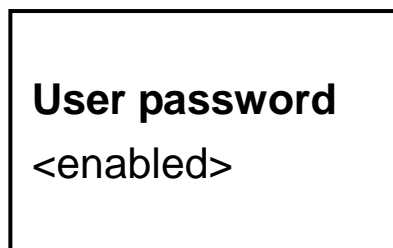

Fig. 4-10
- 4). After entering the password, press  button. LCD will display the submenu of “Settings” (Fig. 4-10).
After you access the “Settings” submenu, LCD displays as Fig. 4-10. The value of “User password” will be “<enabled>” or “<disabled>”. And “<enabled>” means you can change the values of “Settings” submenu items. “<disabled>” means you can’t. It depends on whether you have entered the right password and the UPS status (we are not allowed to change the values of “Settings” when UPS is in “Line Mode” or “BAT Mode”).